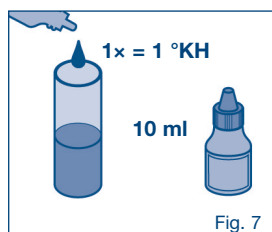

Fig. 7
- The carbonate hardness can be requested from the water supplier or established by means of a quick test (droplet test, Fig. 7). The bypass setting can be selected based on the carbonate hardness and its application. The typical filter capacities are shown in Table 1–2 in Section 10.